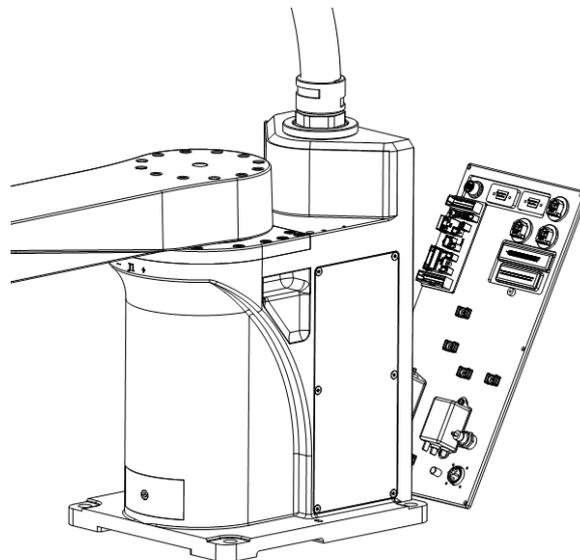

Figure 4-11 Open the connector panel
Step 2 Gently take the connector panel out by holding its upper end. Be careful not to break off the cables when taking it out, as shown in Figure 4-11.